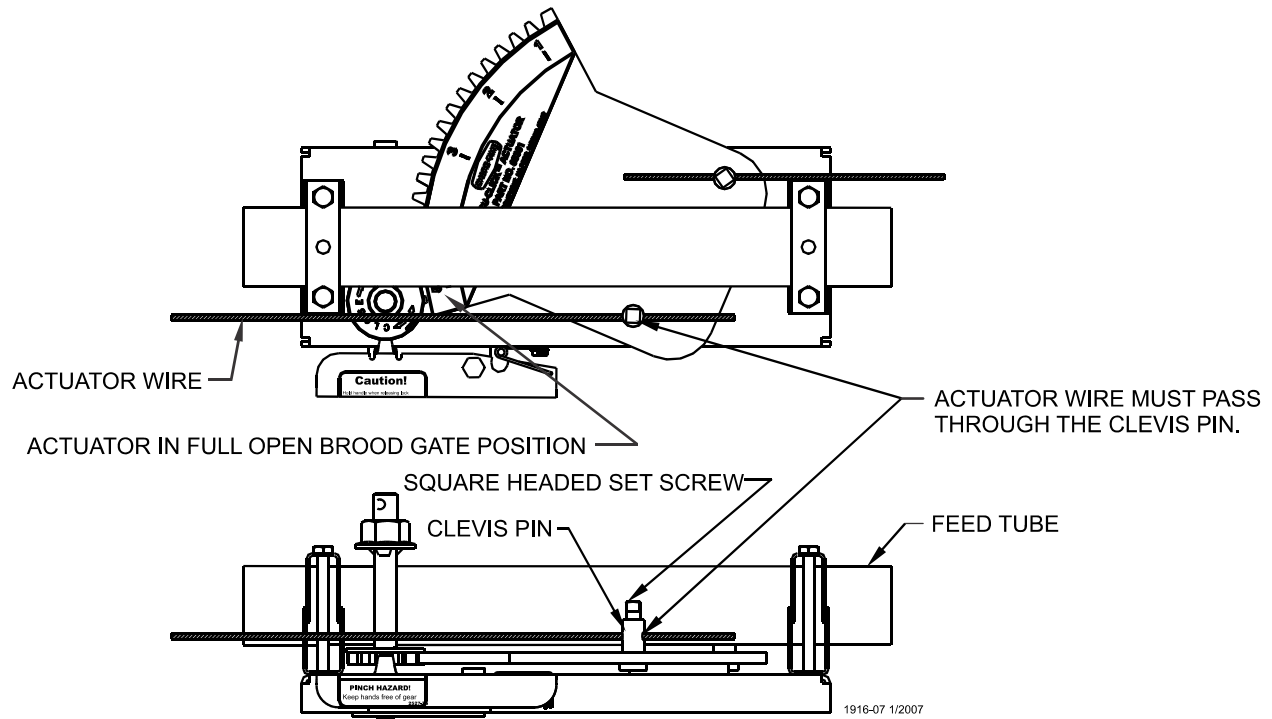

Figure 45. Actuator Wire at ACCU-CLICK™ Actuator.
- Position the actuator so the actuator is in the “Fully Open Brood Gate Position” (**see figure 45**) if it is not already in the “Fully Open Brood Gate position”.
- Tighten the set screws on the clevis pins so they clamp down on the actuator wire, **see figure 45**.